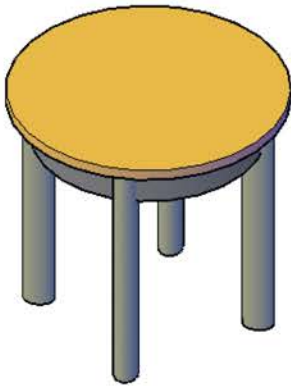

Fig. 16.40 A conceptual shading of one of a table
5. Add suitable materials and render (Fig. 16.40).